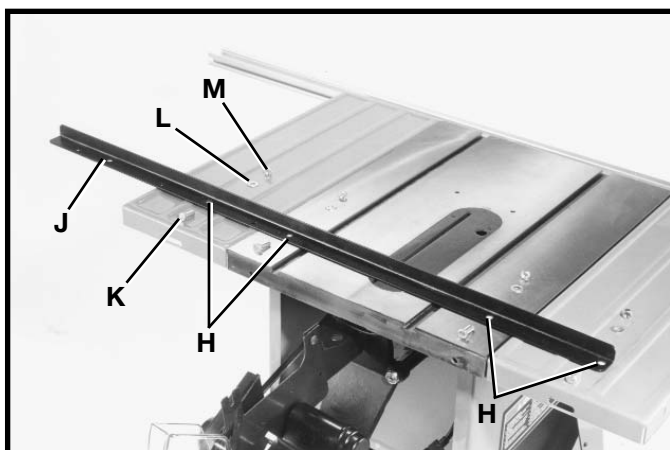
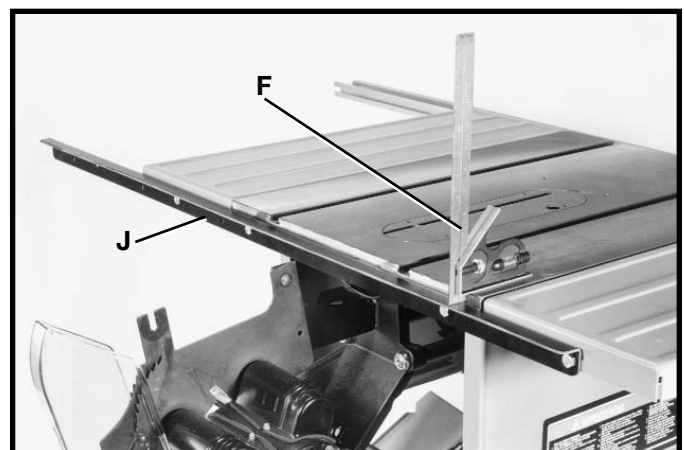

Fig. 9
Fig. 10
5. Align holes in saw table and extension wings with four holes (H) Fig. 9, in rear guide rail (J) and fasten rear guide rail to saw table and extension wings with four one-inch long screws (K) through holes, then add flat washers (L), and hex nuts (M), as shown in Fig. 10. Flat edge of rear guide rail will face upward. **NOTE:** Blade guard and splitter assembly has been positioned at the rear of the saw for this illustration.
6. **Before tightening mounting hardware, using a square (F) Fig. 10, check to make certain the rear guide rail (J) is 19/32" below the surface of the saw and extension tables.**